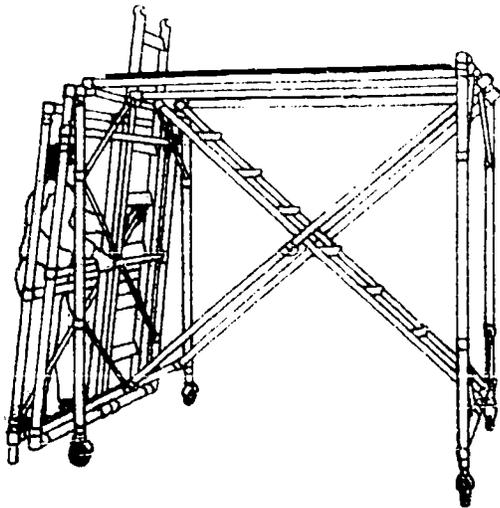

FIGURE 20. Raising the second section
f. Place the next section against the top of the stairway of the bottom section, as shown in Figure 20. The stairway treads on this second section should face out.